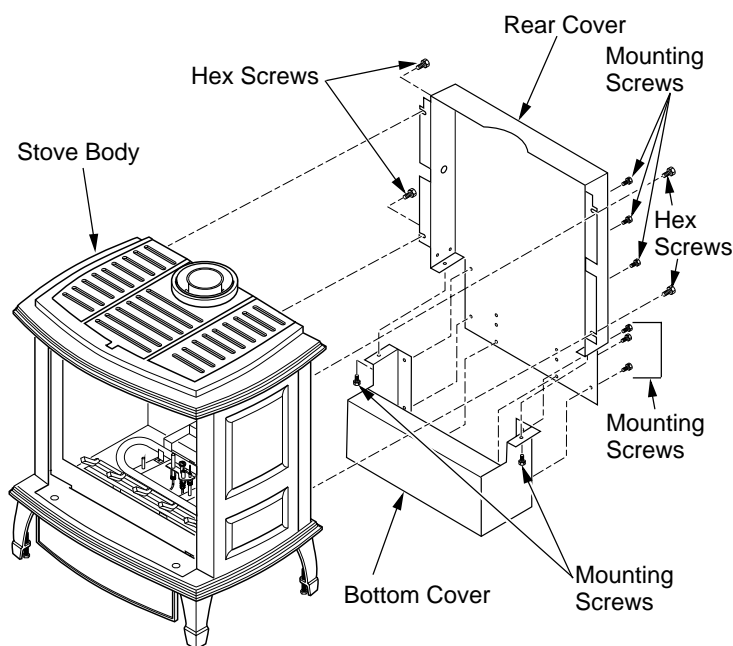

Figure 16 - Removing Rear Cover and Bottom Cover from Stove Body
1. Remove 4 hex screws securing rear cover to back of stove body (see Figure 16).
2. Separate bottom cover from rear cover by loosening the 8 mounting screws (see Figure 16).
14. Reattach bottom cover to rear cover with 8 screws (see Figure 16, page 8). Make sure that you don't pinch any wires during reassembly. Route power cord through plastic bushing in bottom of rear cover.